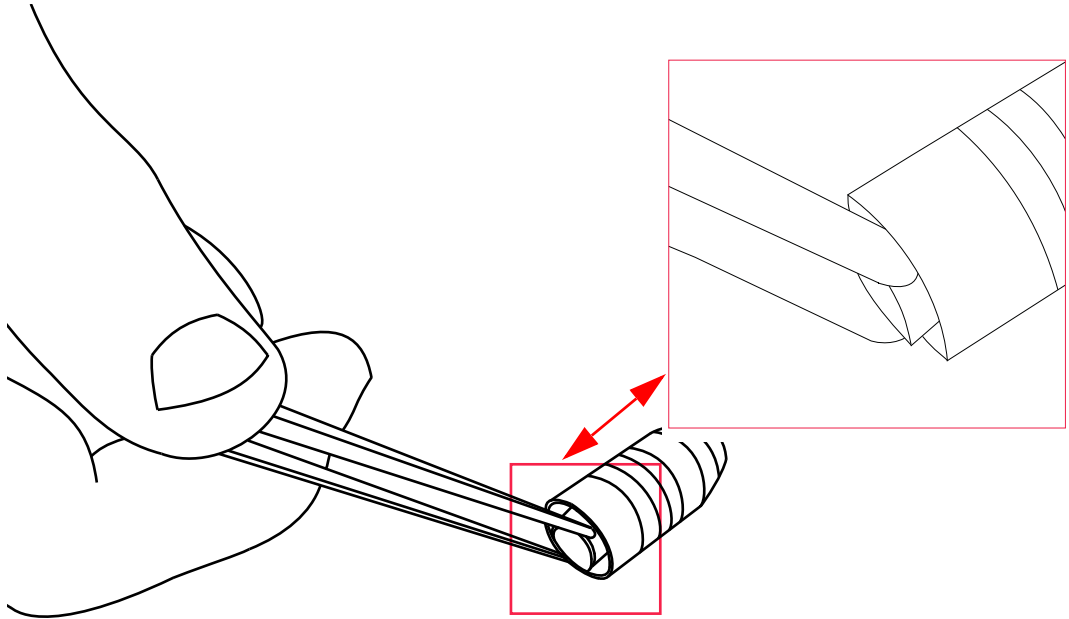

Figure 8-4 *Fixing of the inner part of the connector with tweezers*
- 1 Fix the inner part of the connector with tweezers (see Figure 8-4 Fixing of the inner part of the connector with tweezers).